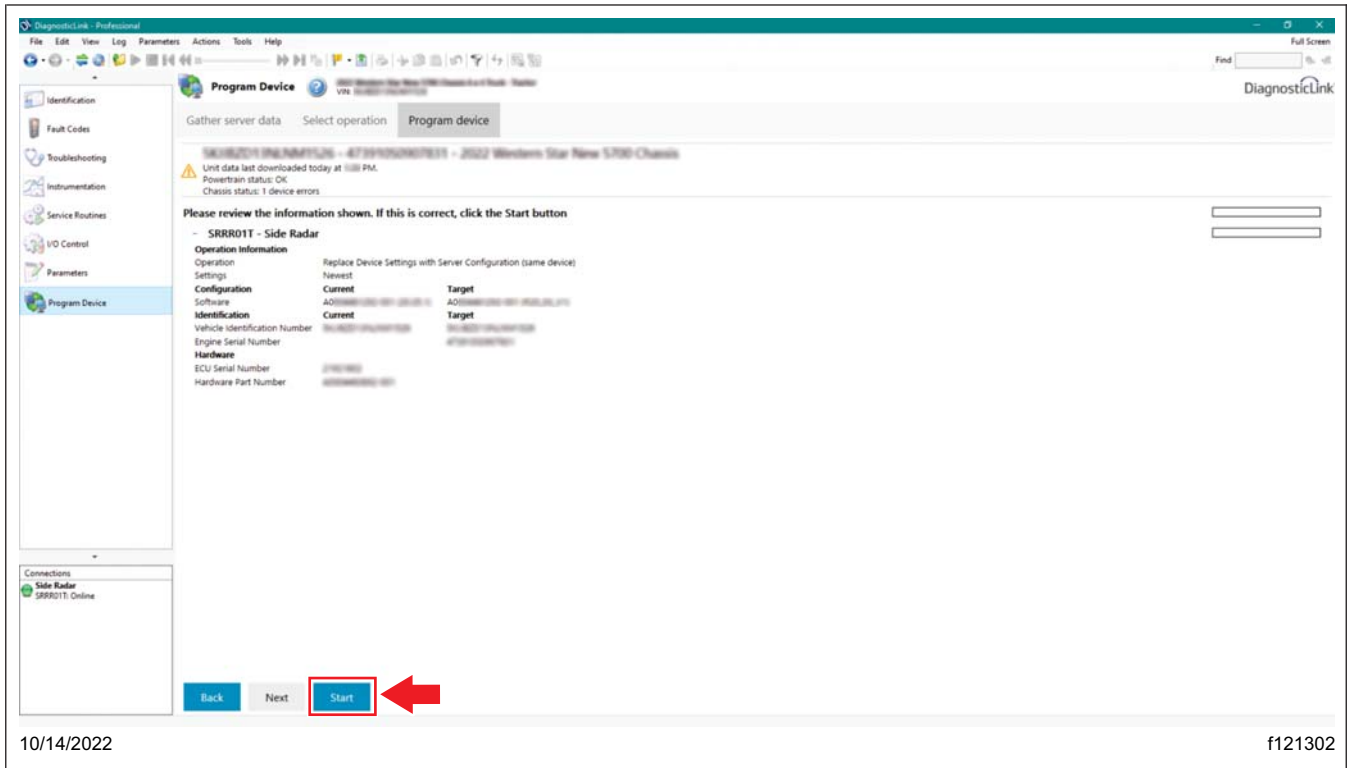

Fig. 19, Starting to Flash SRRR01T
12.4 Select 'Start' to start flashing the SRRR01T. See Fig. 19